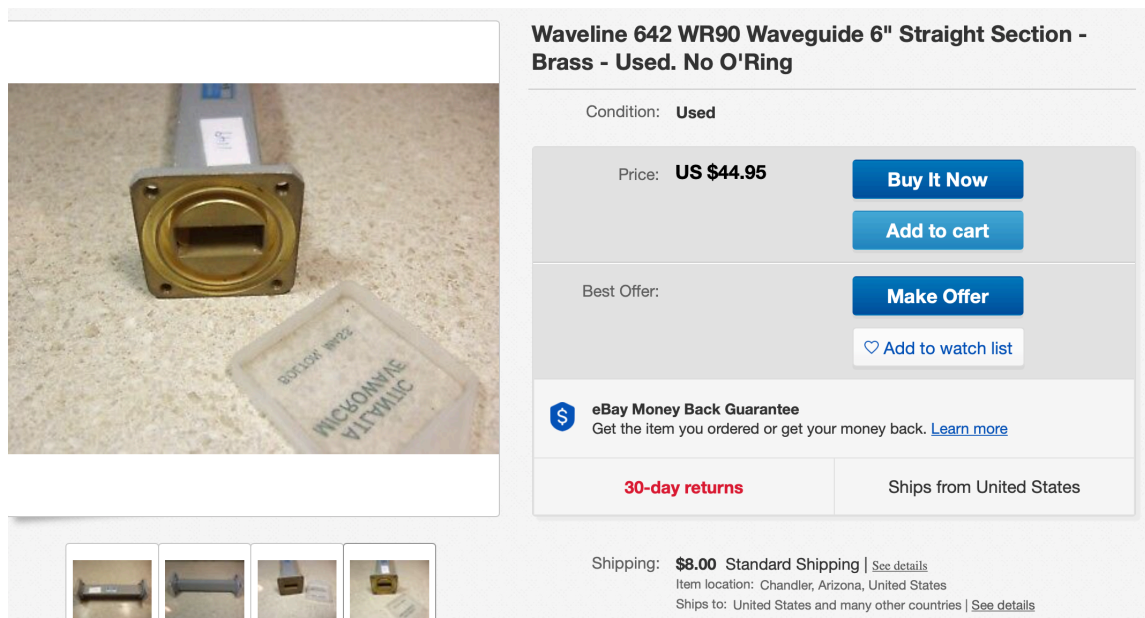

Figure 2
Paul Wade, W1GHZ published an excellent article (1) on building converters which covered his experience and gives details on an approach which may be used to build a microwave converter. I used Paul's article to help guide me in my efforts. Paul's approach was to start with a piece of waveguide made for the target band, WR 90 for 10 GHz as an example. If you want to follow Paul's approach you might look for waveguide or waveguide parts like the one shown in Figure 2 found on eBay. Then you could cut the waveguide section into two pieces and place a plate over the end of each of the pieces and add SMA connectors. The result would be two converters. Since you inherit the flanges from the existing piece this minimizes machining and effort. Finding a economical part to start with may be difficult.